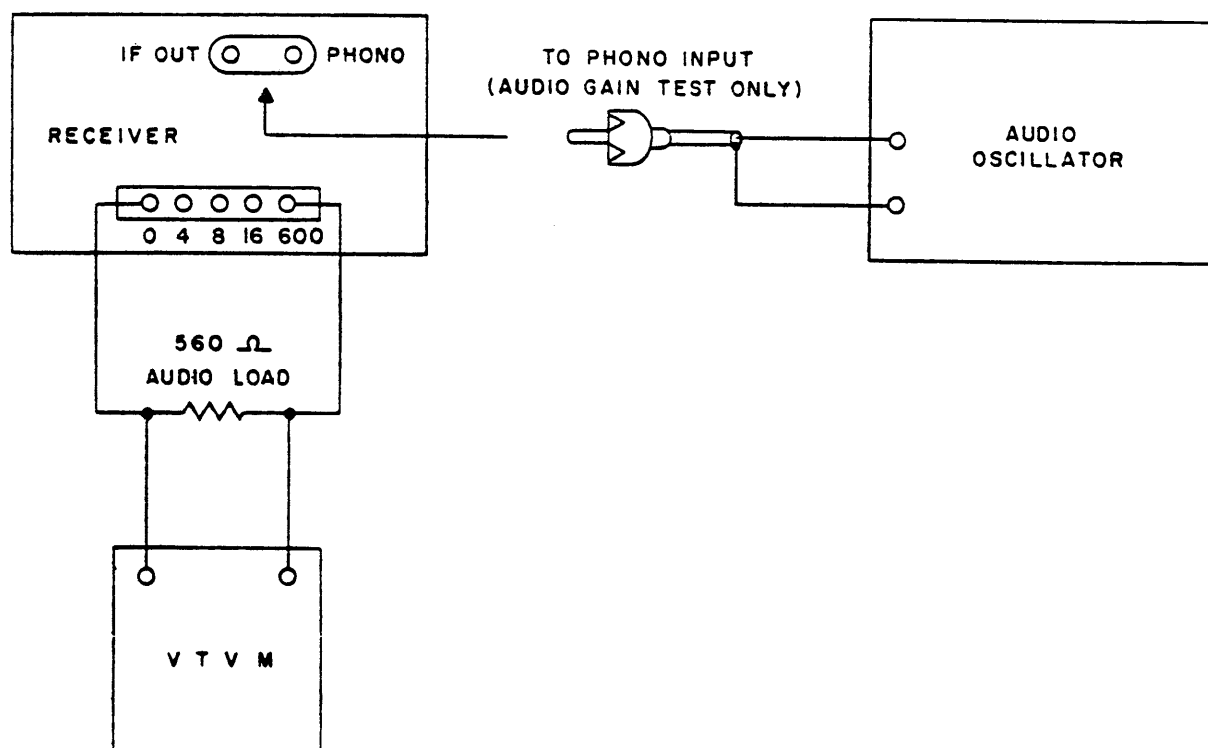

Figure 4-1. Test Equipment Connections for Audio Gain Test and I-F Alignment
a. Plug audio oscillator into PHONO jack at rear of receiver, and connect 560-ohm audio load and a-c vtvm in parallel across 600-ohm speaker terminals (Figure 4-1).
c. Connect 560-ohm audio load and a-c vtvm in parallel across 600-ohm speaker terminals (Figure 4-1).